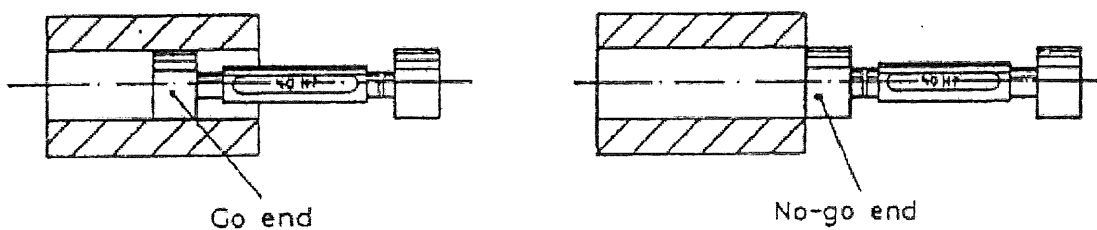

Figure 1: Inspection Process using Plug Gauge
- c) Figure 1 depicts an inspection instrument used to compare the permitted tolerances of a workpiece. **Interpret** its concept. (6 Marks)